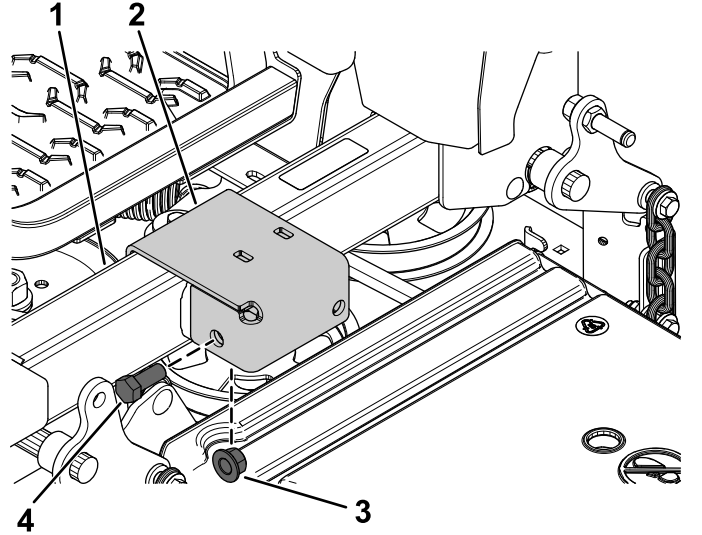

Figure 10
2. Loosely secure the outer actuator bracket to the left frame tube using 1 hex-head bolt (1/2 x 1-1/4 inches) and 1 locknut (1/2 inch) as shown in Figure 10.